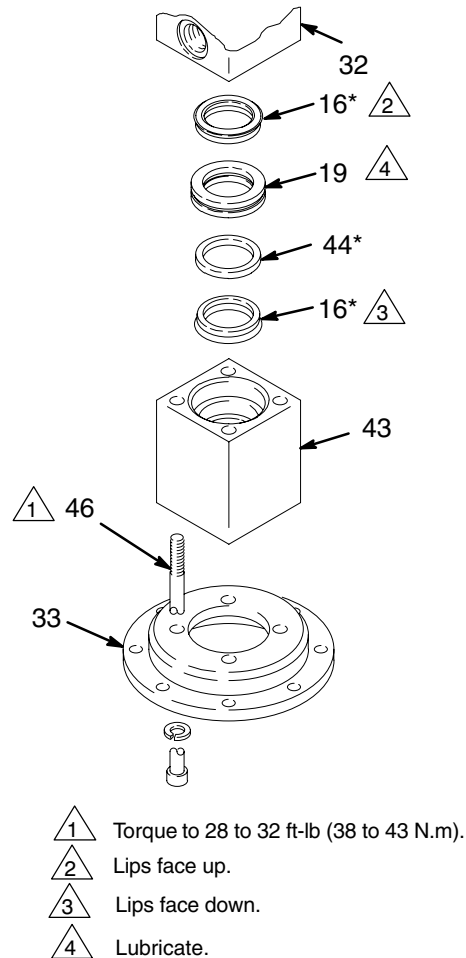

Fig. 5
See Fig. 5.
5. Lubricate the guide (19), and install the seals and guide in the adapter (43) one at a time in the order shown in Fig. 5.
6. Reassemble. Torque the capscrews (46) to 28 to 32 ft-lb (38 to 43 N.m). Install the displacement pump. Follow Step 24, page 17.